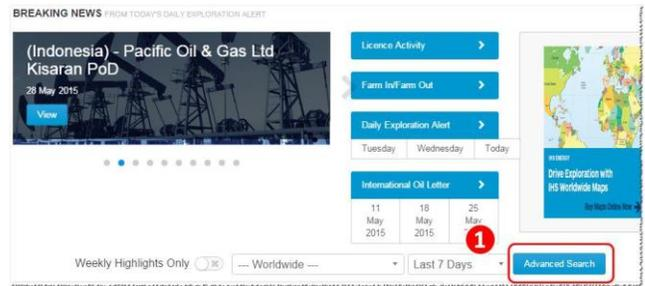

Fig 4-6: Access Advanced Search
- (1) Login **GEPS Reports** homepage and click **Advanced Search** button (Fig 4-6).